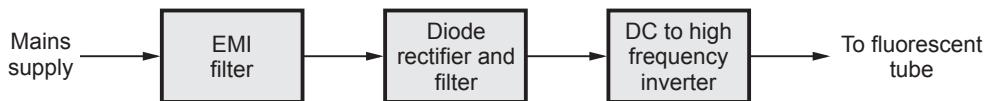

Fig. 6.3.2 Block diagram of electronic ballast
- Fig. 6.3.2 shows the block diagram of electronic ballast.